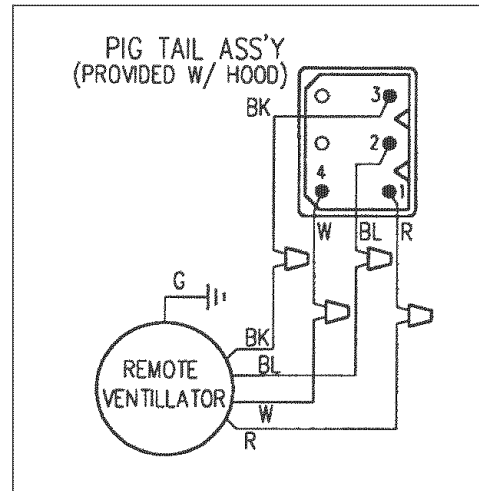

Figure 14
4. Connect the power supply wires to the hood wires in the following order: black to black, white to white, and green wire to green ground screw on chassis. Use spring type wire nuts supplied. (Lost or missing wire nuts should only be replaced with: Spring type wire nuts, rated for a minimum of (2) # 18ga wires and maximum of (4) #14ga wires, UL & CSA rated to 600V and 302 deg. F./150 deg. C).
7. Connect the remote ventilator to the pigtail wires (Step 6) as per Figure 14. Connect the remote blower green (ground) wire to the ground screw in the junction box.